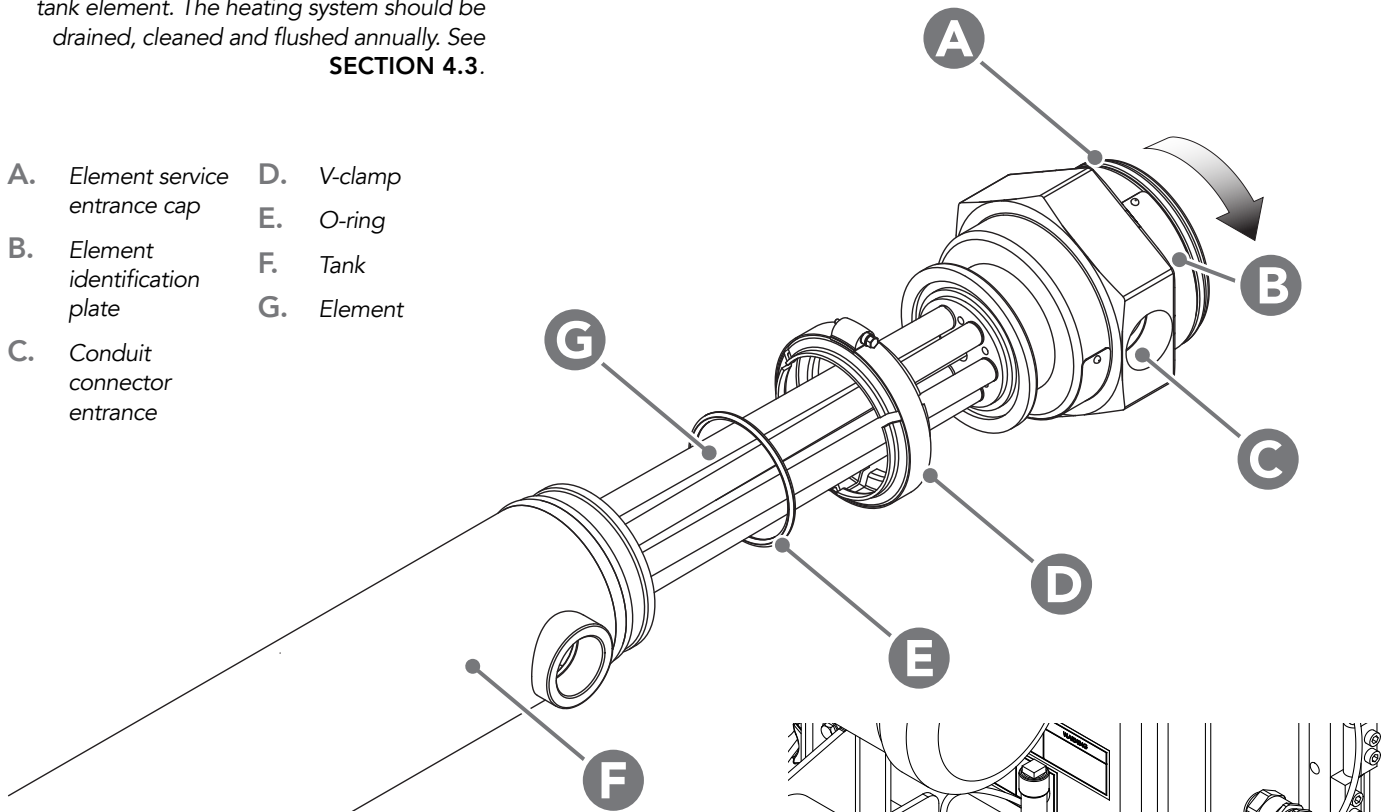

Figure 12. CSE, showing element conduit (H).
7. Unscrew cable gland from conduit connector entrance **(C)**. Remove element conduit **(H)** and wires from the heating element. See *Figure 12*.